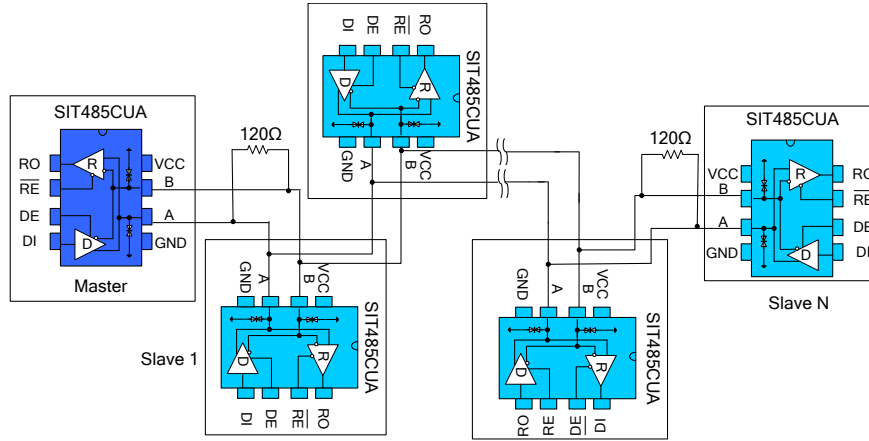

Fig12 Daisy chain topology type RS485 communications network
**5.2 Hand in hand type:** Also known as daisy chain topology, is the prior RS485 bus topology recommended by the TIA organization. The routing method is the master device and a number of slave devices connected in hand-handle configuration, as shown in Figure 12. It should be noted that hand in hand means no branch line. This kind of topology has the advantages of small reflection and high rate of success communication.